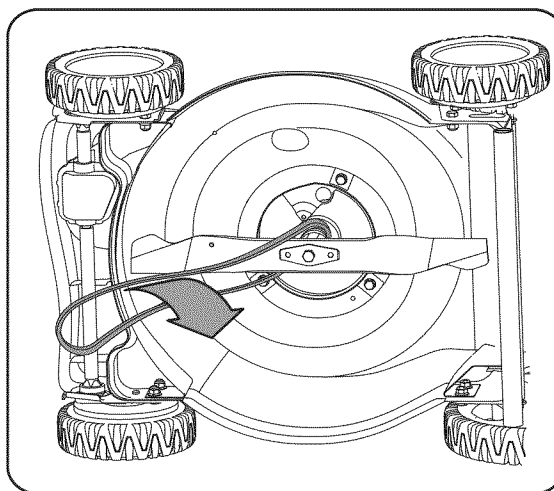

Figure 13
5. Push the transmission up a little and slide the belt off the transmission pulley. Lift the mower to access the belt from the underside of the mower. Slide the belt off the engine pulley and around the blade. See Figure 13.